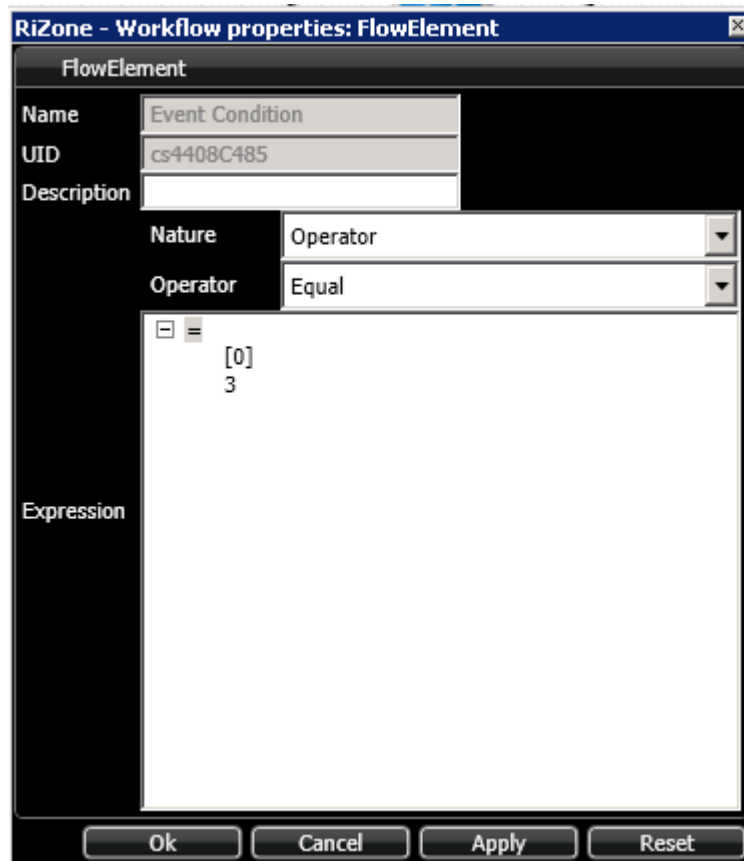

Fig. 38 Condition event properties
1. Select the **Operator** in the lower window. The AboveOrEqual operator is selected in figure 38. Possible operators are: **Equal, Unequal, Above, Below, AboveOrEqual, BelowOrEqual, And, Or, NAND, NOR.**